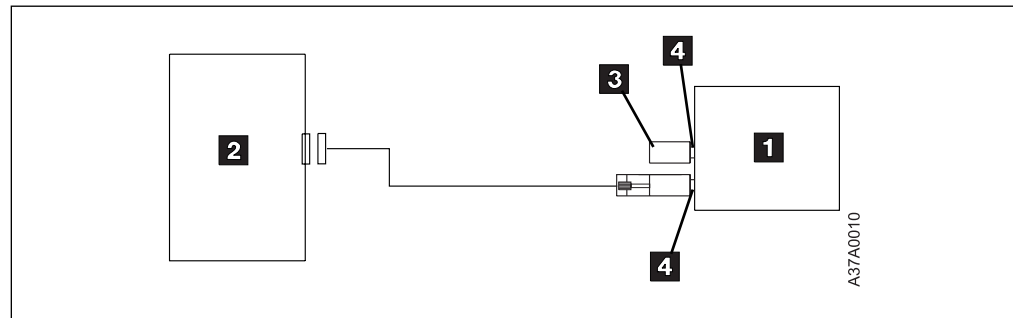

Figure 5. Example of Attaching One SCSI Device to the System Unit. The view is from the side. The thumbscrews on the connector are not shown.
- If the 7207-122 Tape Drive is the only device attached to the system, connect the cable to the RS/6000 (see Figure 5 on page 9).
- If the 7207-122 Tape Drive (**1** in Figure 5) is the only SCSI device attached to the RS/6000 **2**, install the terminator **3** on one of the dual connectors **4**.